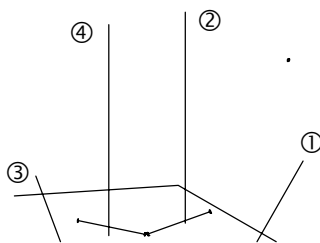
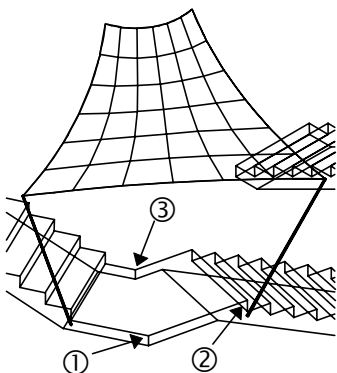

Figure 25
Figure 26
- Now, turn off the *Stair* layer, set the *Current Layer* to *ShadeCloth* and use Figure 25 as a guide to position the *UCS* with the *Origin* at ①, the *X-axis* passing through ②, and with ③ representing a point on the positive-*Y* portion of the *XY* plane — use *Draw > Arc > Start, End, Direction* (from the pull down menus) to construct arcs between ① & ② and ① & ③, being careful to use *|ENDpoint|* to lock accurately to those points, and judging the curvature of the arcs by eye.
- Repeat the last step with the *UCS* origin at ④, constructing arcs ④-③ and ④-②.
- Finally, turn ON the *Stair* layer and turn OFF the *Construction* layer, then use Figure 26 to position the *UCS* with *Origin* at ①, *X-axis* through ② and *XY plane* through ③ — make the two poles, four arcs and the mesh into a block called **Tarp**, and with the *Current Layer* set to *ShadeCloth*, insert that block on every third landing (except the one just below the platform).